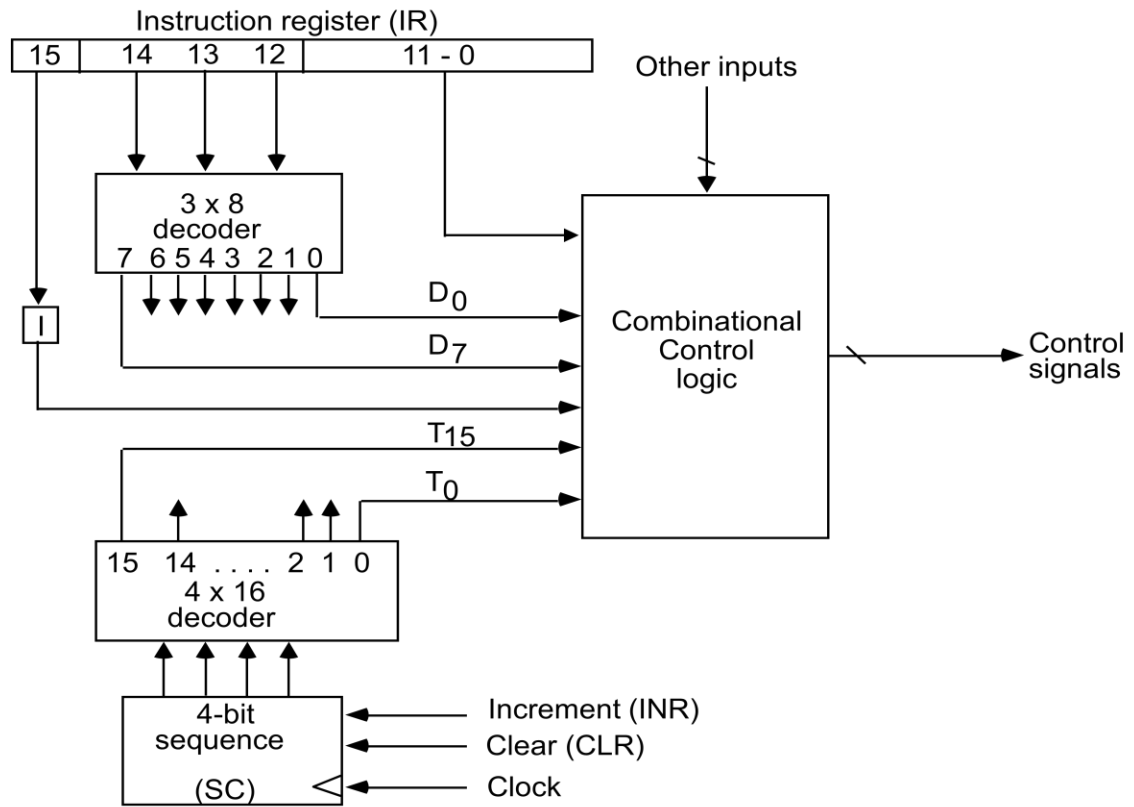

Figure 2.7: Control unit of basic computer
- The block diagram of the control unit is shown in figure 2.7.
- An instruction read from memory is placed in the instruction register (IR). In control unit the IR is divided into three parts: I bit, the operation code (12-14)bit, and bits 0 through 11.